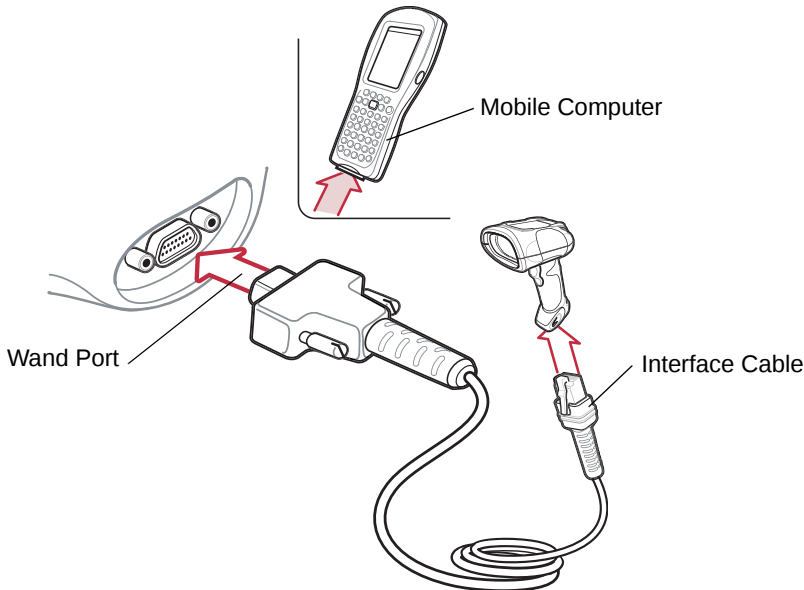

Figure 10-1 Wand Emulation Connection
- ✓ **NOTE** Interface cables vary depending on configuration. The connectors illustrated in Figure 10-1 are examples only. The connectors may be different than those illustrated, but the steps to connect the scanner are the same.